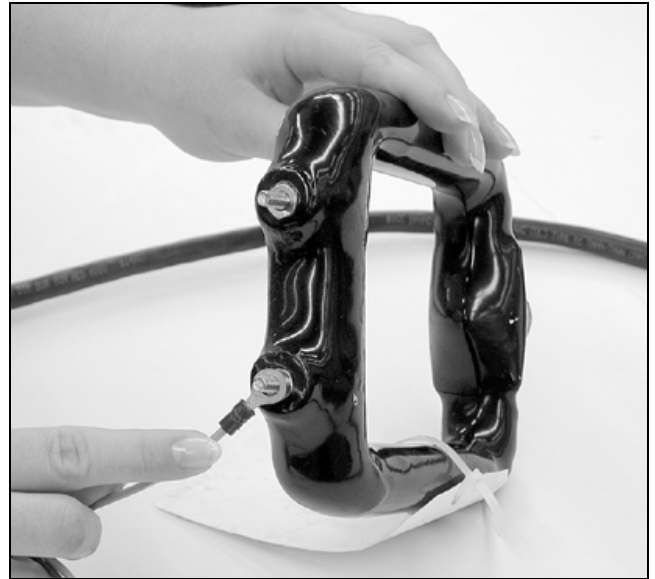

Figure 55. Attach current sensors to required wiring.
- STEP 2.** Connect the current sensors to the wiring harness as shown on the interconnection wiring diagram provided with the gear. See Figure 55.